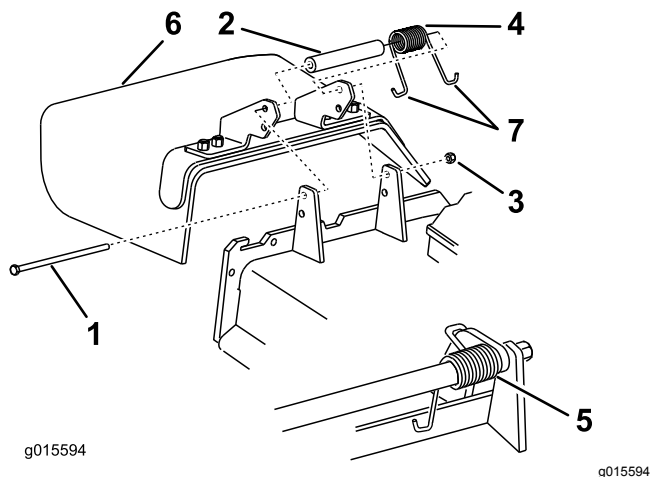

Figure 6
4. Remove the locknut, bolt, spring, and spacer securing the deflector to the pivot brackets (Figure 6).
5. Remove the grass deflector (Figure 6).